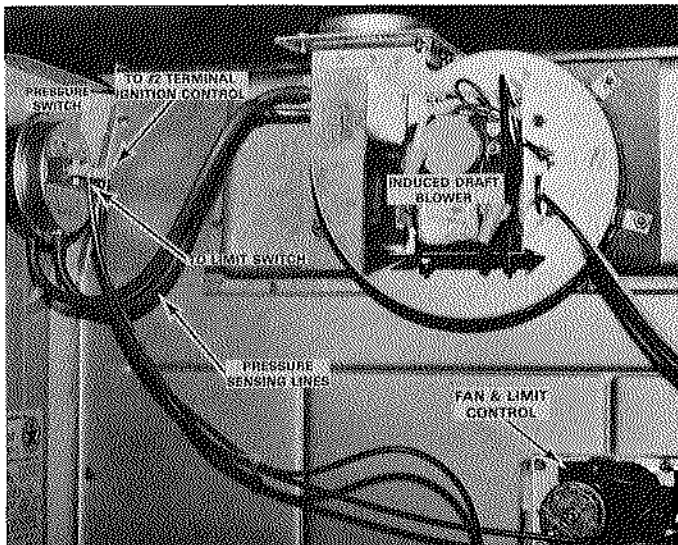

FIGURE 7
**1 - Pressure Switch (Figure 7)**